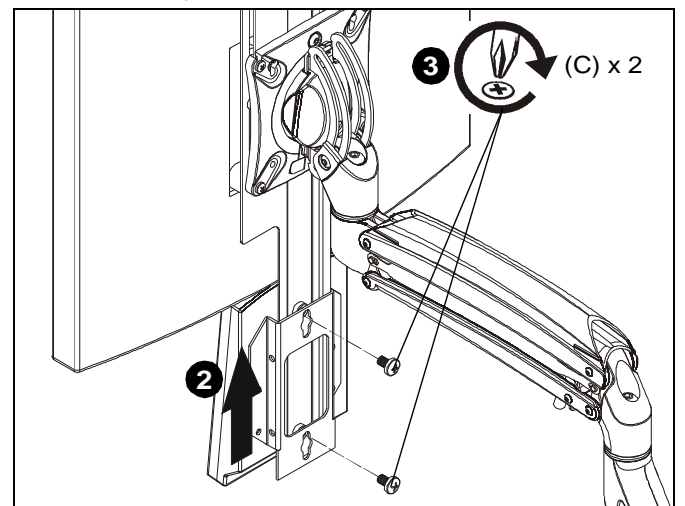

Figure 3
2. Slide bump bar bracket (not included) onto interface bracket (A) until mounting holes are aligned. (See Figure 3)
3. Use two M6 x 10mm Phillips pan machine screws (C) to secure bump bar bracket (not included) to interface bracket (A). (See Figure 3)